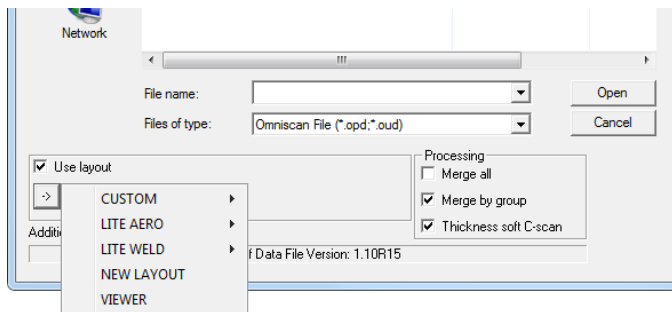

Figure 6-3 The Use Layout list
2. To apply one of the template layouts on the converted data files, select the **Use layout** check box and the  to select a layout. When the converted files are opened in TomoView, all views, readings, and preferences will be properly set (see Figure 6-3 on page 320).